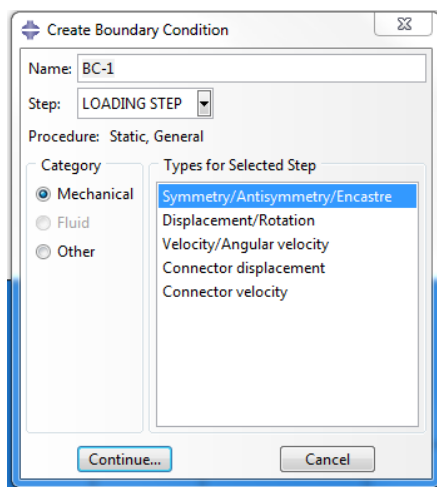
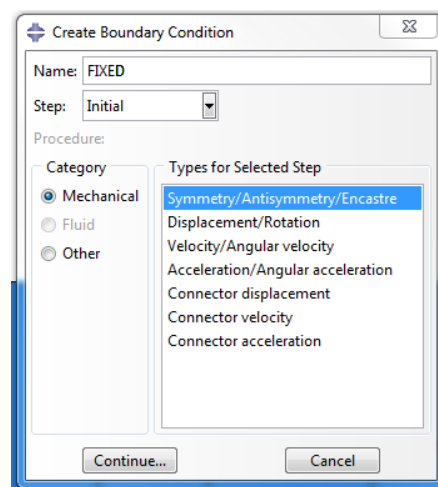

Figure 27a. Create Boundary Condition
Figure 27b. Create Boundary Condition (FIXED)
- Double click **BCs** in the model tree and the **Create Boundary Condition** dialog box will appear (Figure 27a). Create a **Name** for the boundary condition called **FIXED**, and under the **Step** drop down menu make sure to choose **Initial**. Under the **Category** option choose **Mechanical**, and choose **Symmetry/Antisymmetry/Encastre** under the **Types for Selected Step** option. The **Create Boundary Condition** dialog box should look identical to that in Figure 27b.